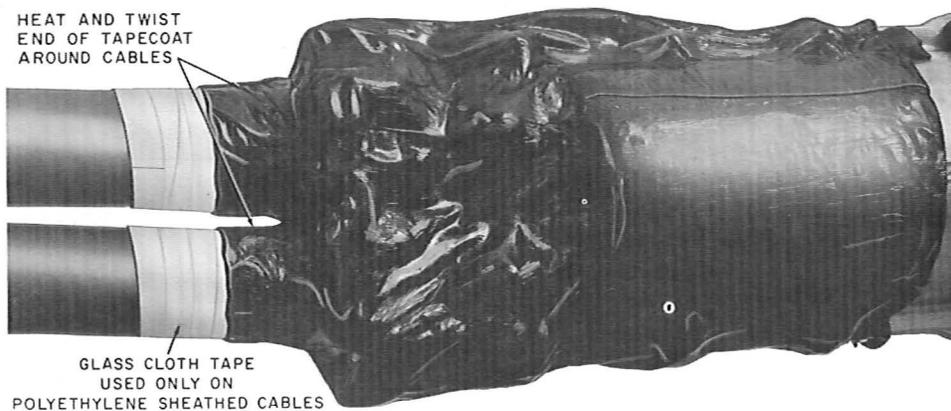
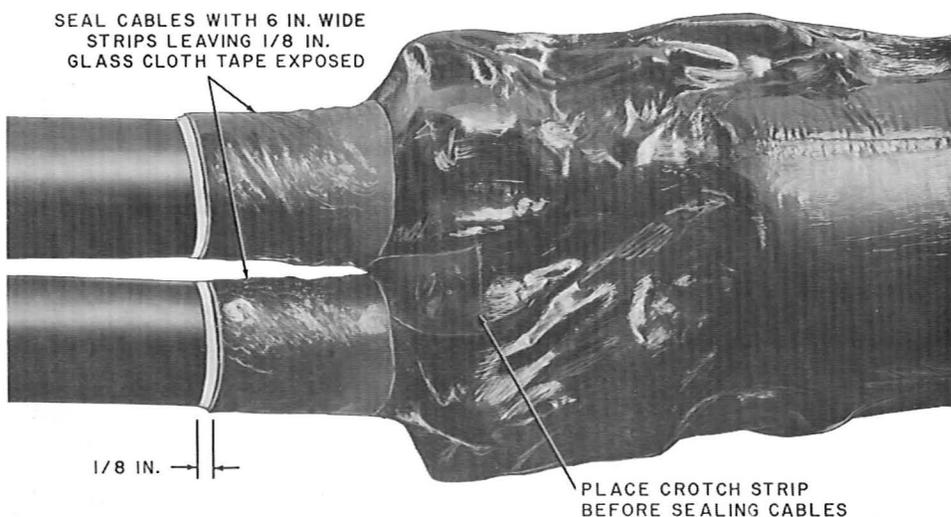

Fig. 9—Tapecoat 20 Applied to Multiple Joint
Fig. 10—Completed Multiple Joint
2.13 ♦Heat and form the ends around the crotch area (Fig. 9) and cut a short length of tape, place between the cables, and seal around the closure. Cut two 6-inch wide strips of Tapecoat 20 and seal around each cable leaving 1/8 inch of the glass cloth tape exposed (Fig. 10). Do not allow Tapecoat 20 to contact the polyethylene cable sheath.♦